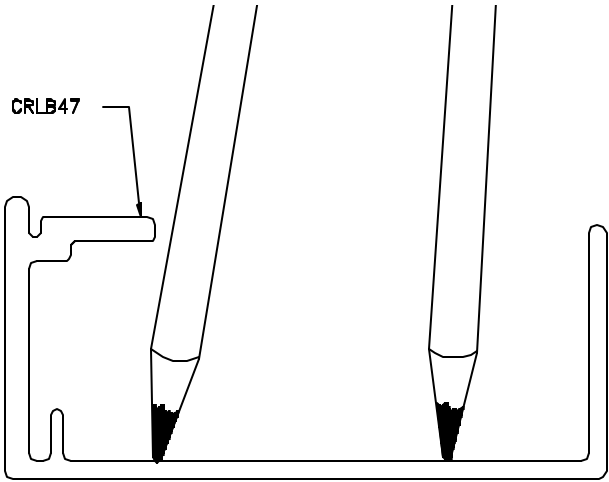
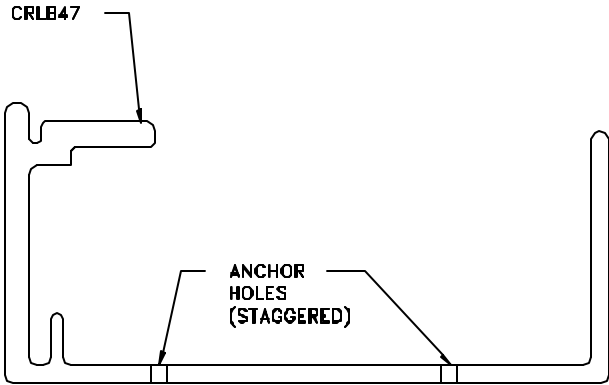

Figure 5
Figure 6
- STEP 6.** If the anchor holes have not been drilled into the base member at the factory, mark the locations for the anchor holes on the subchannel (see Figure 5). Standard anchor hole spacing is 20" o.c. staggered with an anchor hole a maximum of 3" from each end of the base member. Drill the anchor holes into the base members at the marked locations (see Figure 6). Repeat the procedures given in Step 5 and Step 6 for each section of the Subchannel Assembly.